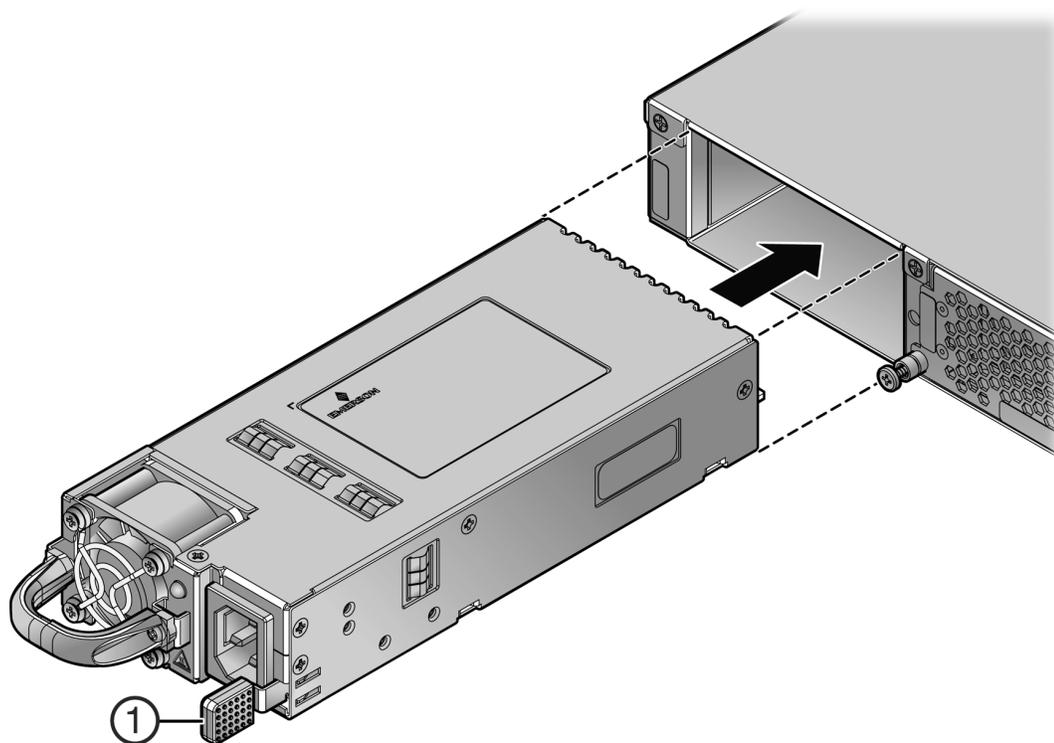

Figure 10: Installing a Power Supply
- 1 Put on the ESD wrist strap and attach it to the ground receptacle on the I/O port side of the PV-FC-180 application sensor before removing the pluggable transceiver. Refer to the instructions in the anti-static wrist strap package. See Figure 10: Installing a Power Supply on page 26 for the location of the ground receptacle.